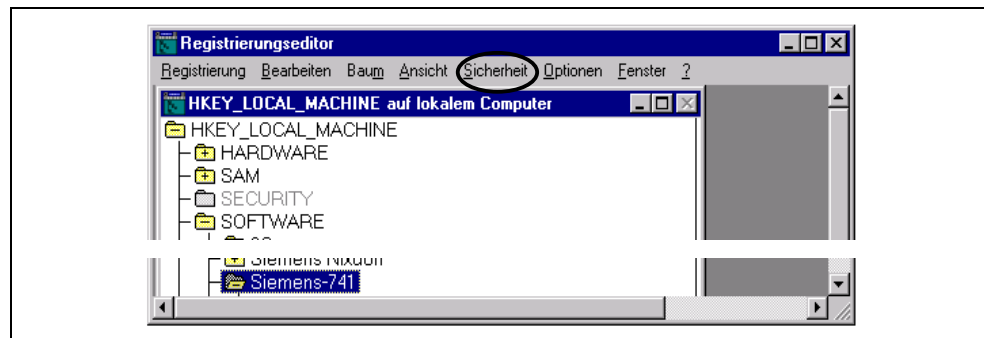
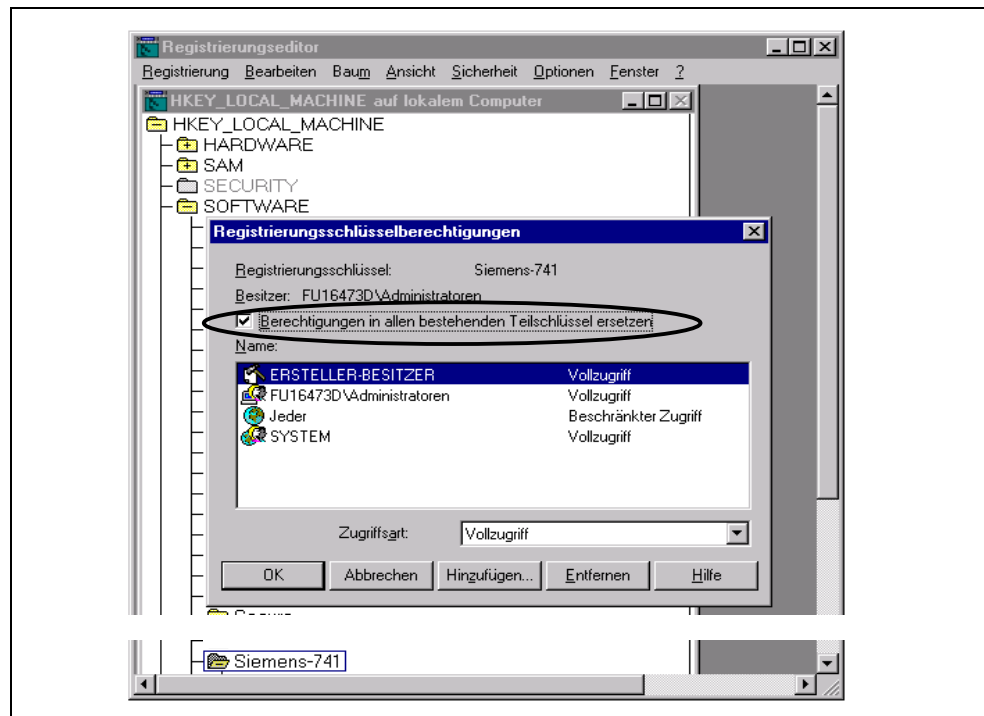

Figure 2-11 The HKEY_LOCAL_MACHINE screen
Figure 2-12 "Registrierungsschlüsselberechtigungen" screen
2. Set the path "Siemens-741" in the HKEY_LOCAL_MACHINE screen (see figure 2-11).
3. Select "Sicherheit" in the menu bar (see figure 2-11). The "Registrierungsschlüsselberechtigungen" screen appears. In this screen, activate the option "Berechtigungen..." and select the user for whom the rights are to be added (see figure 2-12).